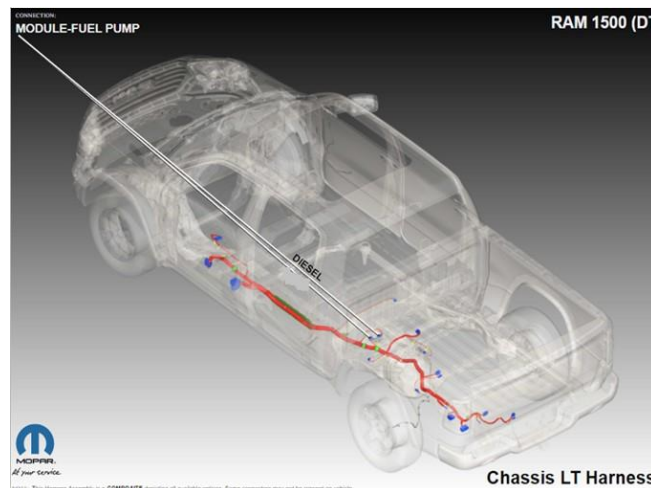

Figure 5.
5. Inspect the in-tank fuel delivery pump module connector D6602A (see Figure 5.) for any loose connections, water intrusion/corrosion, pushed out terminals, and repair as necessary.